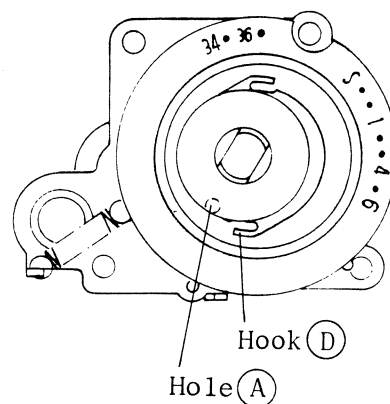

Fig.21
C. Replacement of reset spring of film counter (Fig. 21 and 22)